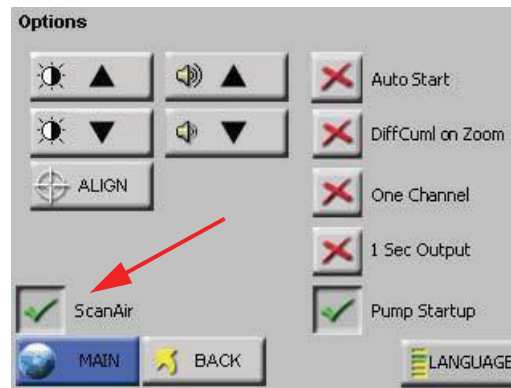

Figure 3-2 ScanAir Enabled
3. If the Scan Mode icon is not available, press CONFIG then OPTIONS to open the Options screen. Press the ScanAir button. A green checkmark indicates that Scan Mode is enabled. See Figure 3-2. Return to the Main screen.